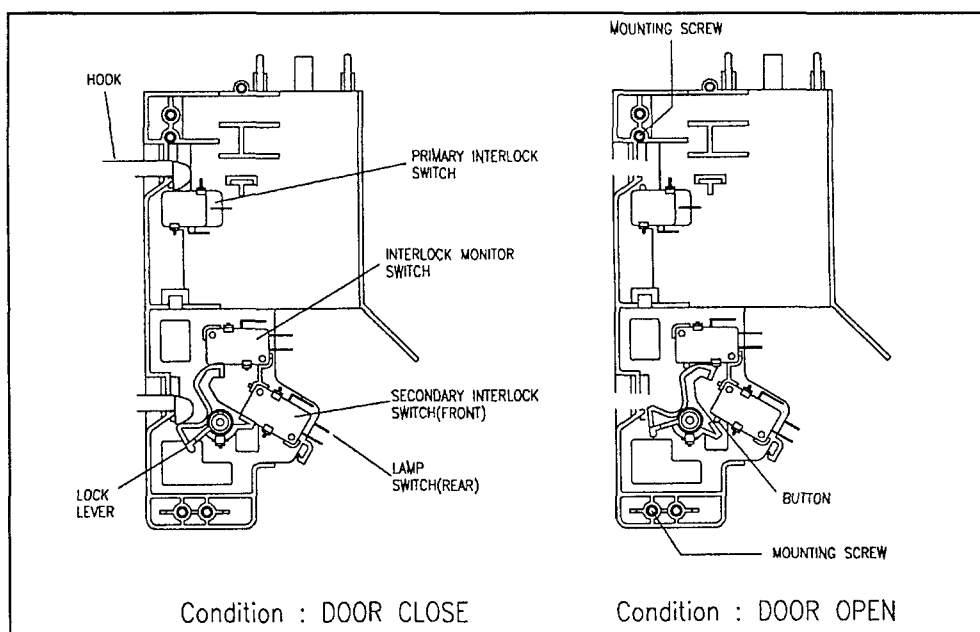

Figure 16
4. Interlock Mechanism and Adjustment (Figure 16)